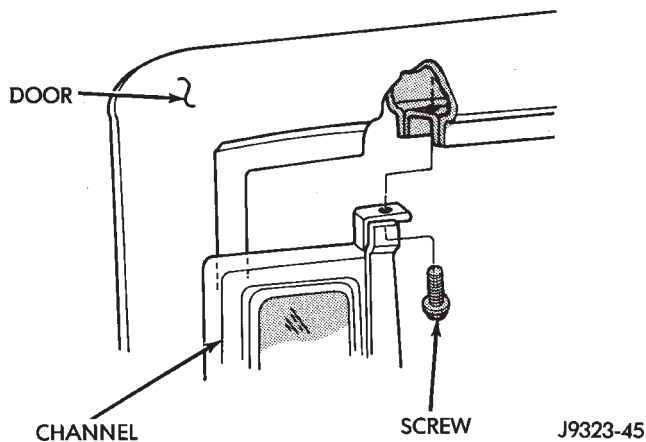

Fig. 10 Stationary Glass Channel
- (6) Remove division bar upper attaching screw and belt line screw (Fig. 10).
- (1) Install window glass in door.
- (2) Tighten glass track nuts to 6 N•m (53 in-lbs) torque.
- (3) Install stationary glass channel in door.
- (4) Install stationary glass channel screws (Fig. 10). Tighten screw to 6 N•m (5 ft-lbs) torque.
- (5) Install window glass channel and belt weatherstrip seals.
- (6) Install window beltline molding.
- (7) Install door waterdam and trim panel. If necessary, refer to installation procedure.